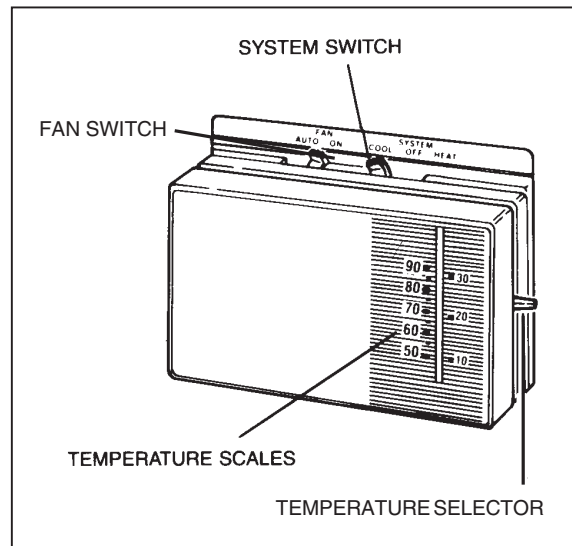

Figure 1. Typical Thermostat
1. Set the thermostat system switch to COOL and the thermostat fan switch to AUTO. See Figure 1.
1. Set the thermostat system switch for HEAT and the thermostat fan switch to AUTO. See Figure 1.